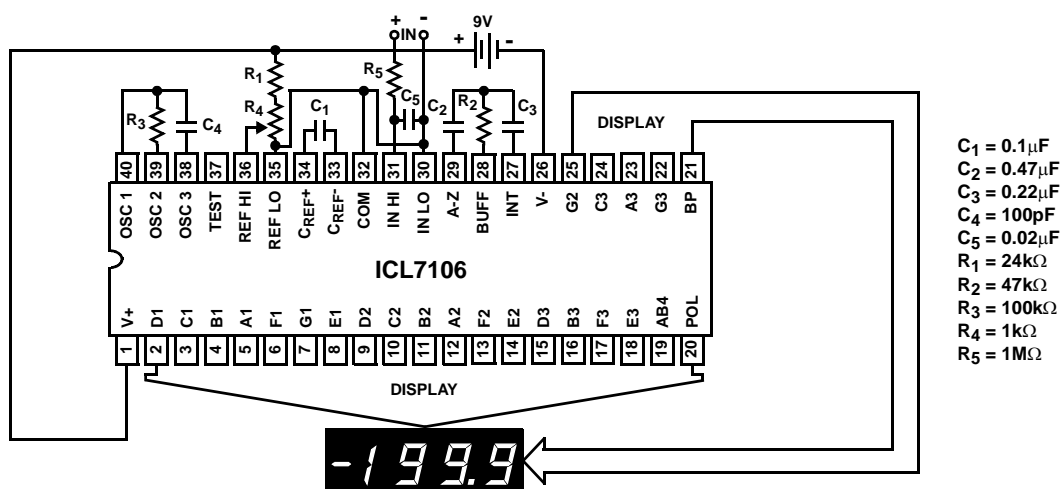
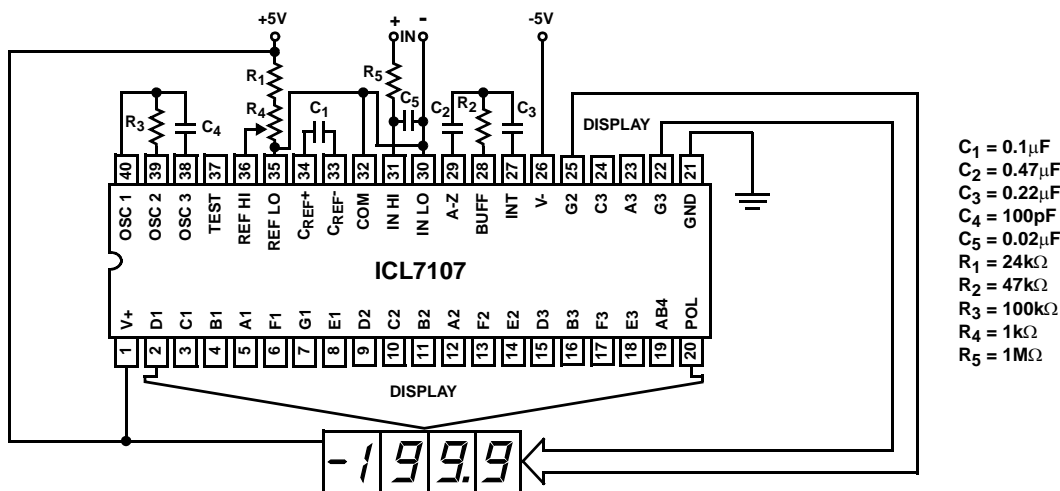

FIGURE 1. ICL7106 TEST CIRCUIT AND TYPICAL APPLICATION WITH LCD DISPLAY COMPONENTS SELECTED FOR 200mV FULL SCALE
FIGURE 2. ICL7107 TEST CIRCUIT AND TYPICAL APPLICATION WITH LED DISPLAY COMPONENTS SELECTED FOR 200mV FULL SCALE
- Unless otherwise noted, specifications apply to both the ICL7106 and ICL7107 at $T_A = 25^\circ C$, $f_{CLOCK} = 48kHz$. ICL7106 is tested in the circuit of Figure 1. ICL7107 is tested in the circuit of Figure 2.